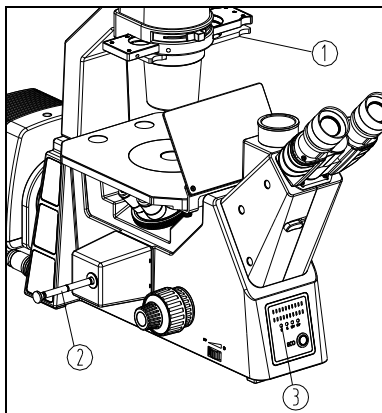

Fig. 34
- (1) Pull the filter flashboard ① to the position of light barrier, to keep out the stray light. (See Fig. 34)
- (2) Push/pull the fluorescence filter group switch pole ②, to the wavelength position for fluorescence observation, until a ticking is heard, which indicates the fluorescence filter group and LED fluorescence lamp source are in to light path. The LED is lighten up, and the corresponding fluorescence wave band indicator ③ of the front pannel is lighten up.